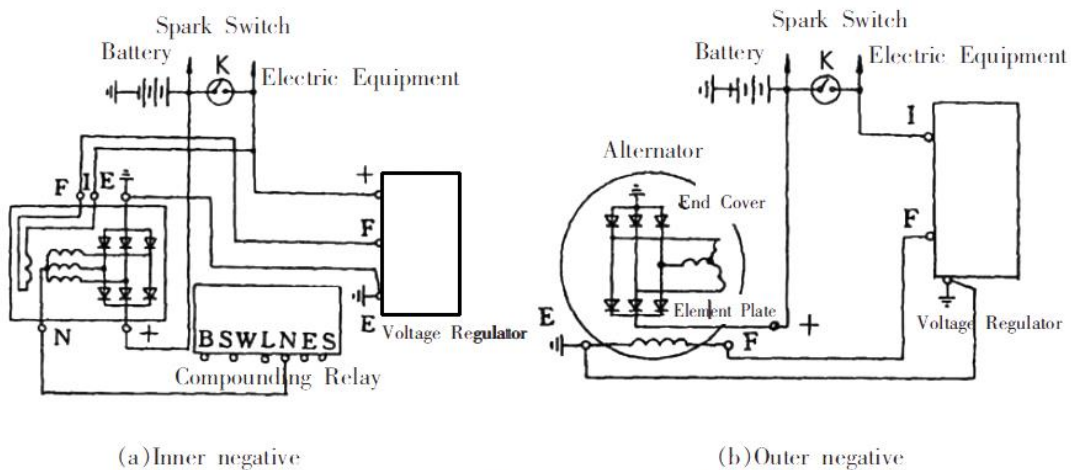

Fig 5-53 Principle and Working Sketch of AC Alternator
As a part of electrical system, the wiring between the alternator and other electrical elements refer to the electrical diagram. Fig5-52 and Fig5-53 are principle and wiring diagrams.
7.2.6 When the engine is stopped, turn the start switch to "OFF" position to prevent electric current coming from the battery into the magnetic field winding (see K switch in Fig5-53).